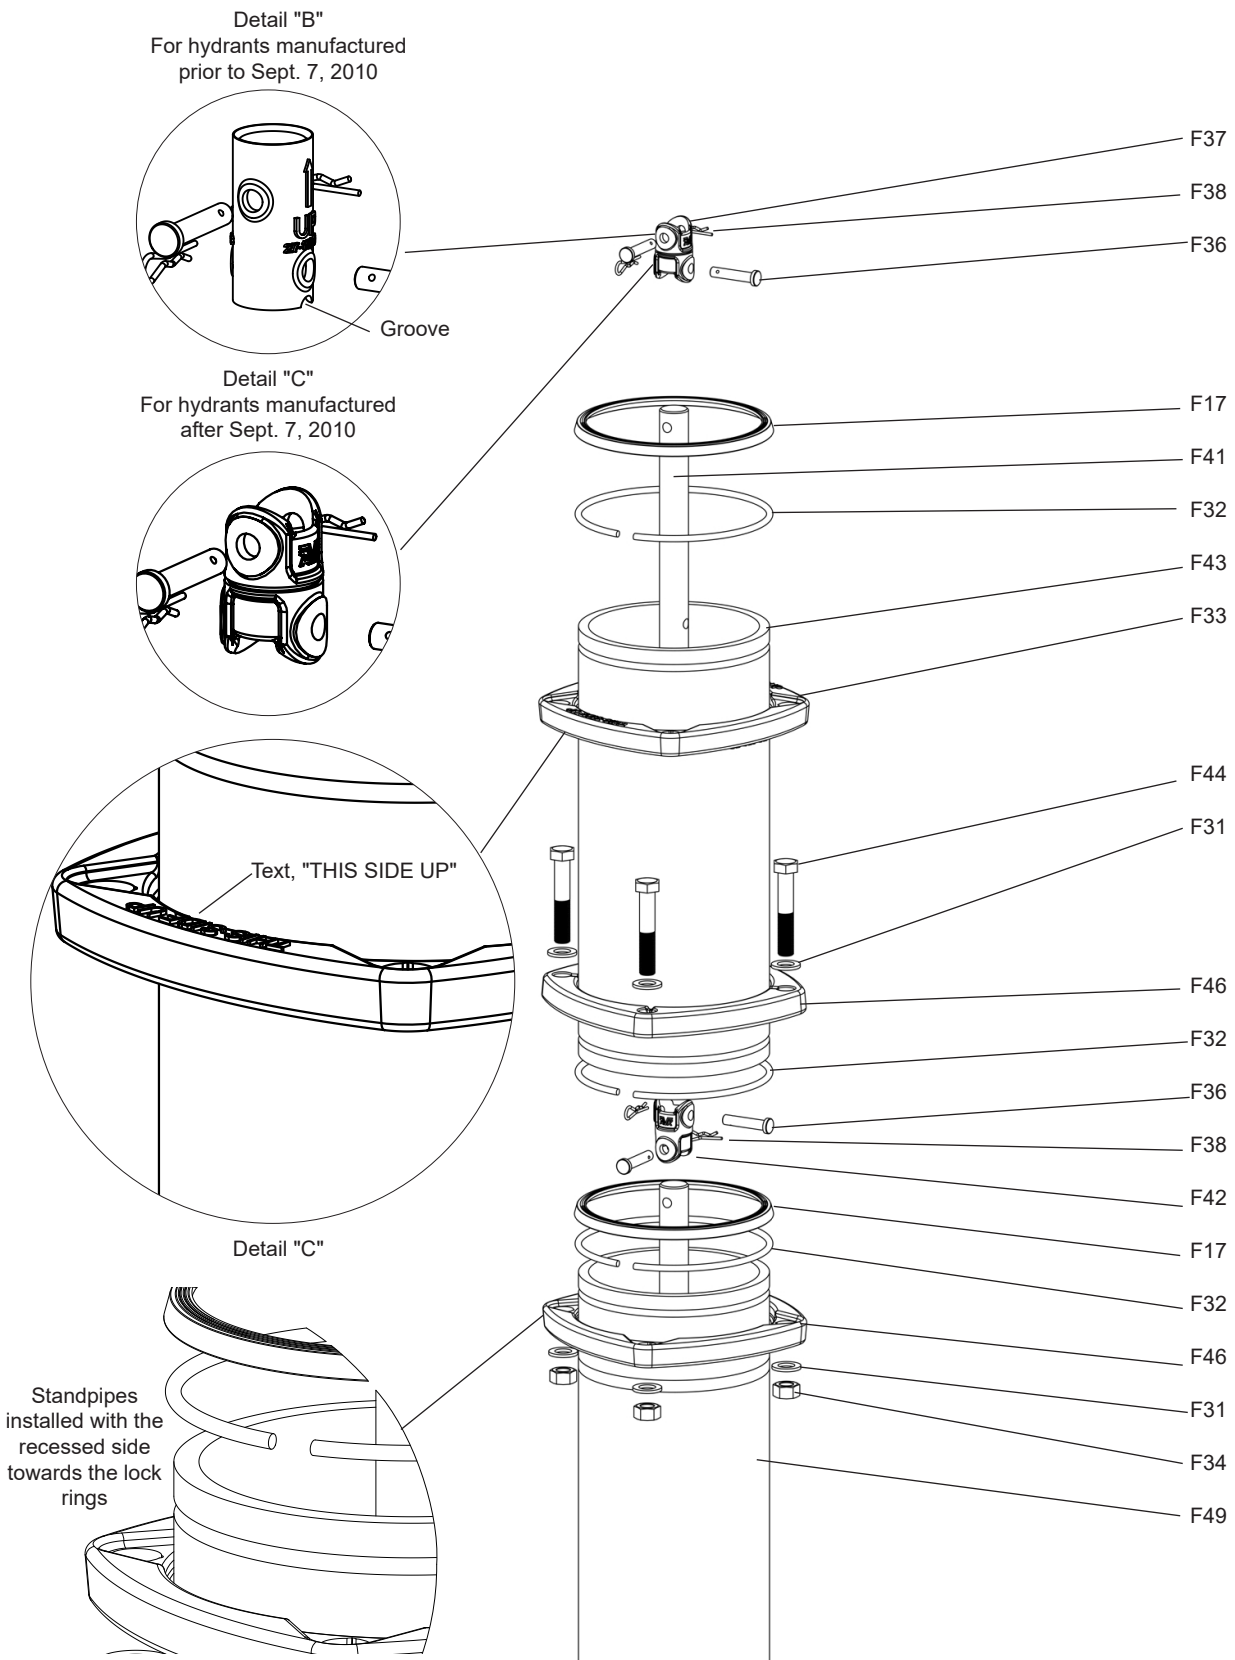

Fig. 10
7.1 EXTENSION KITS: Fig. 10
16. Align the bolt holes on the two standpipe flanges (F46) and install the extension barrel bolts (F44), nuts (F34), and washers (F31) as shown in figure 10. Tighten to 110 Nm.